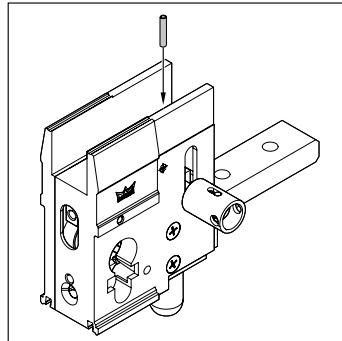

Abb. 14 Pin the bolt
3. Pin the base lock and the bolt from above with a dowel pin (Abb. 14).